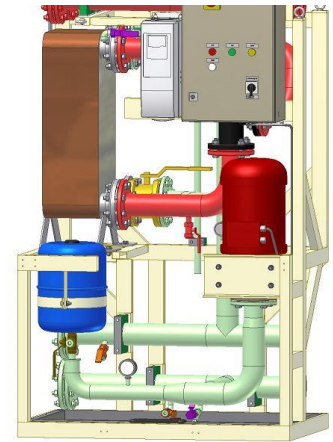

Figure 5.1-10
- Valves V161...V162      open (violet colour in Figure 5.1-10)
- Valve V160                lever down (brown colour in Figure 5.1-10)
- Valve V140                closed (yellow colour in Figure 5.1-10)
- Valves V230, V232      closed (orange colour in Figure 5.1-10)